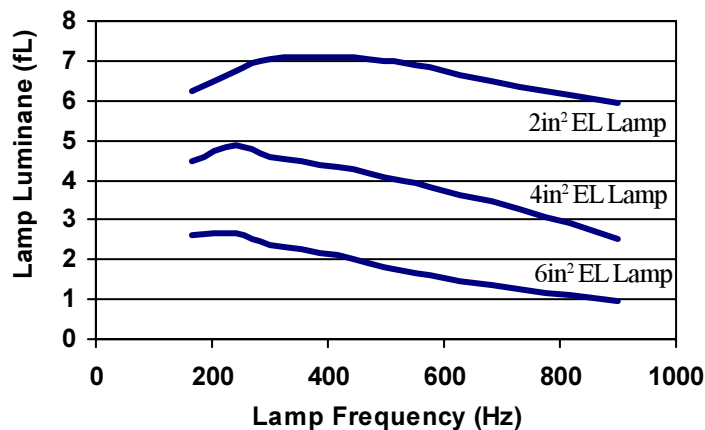

Figure 2: Typical Lamp Luminance vs. Lamp Frequency
The selection of the CLF value can also affect the brightness of the EL lamp because of its control of the lamp frequency (LF). Although input voltage and lamp size can change EL lamp frequency as well, LF mainly depends on the CLF value selected or the frequency of the input clock signal to CLF. The luminance of various sizes of Durel 3 Blue-green EL lamp driven by a D356B at $V+ = 3.0V$ using the same inductor value is shown in Figure 2 with respect to lamp frequency.